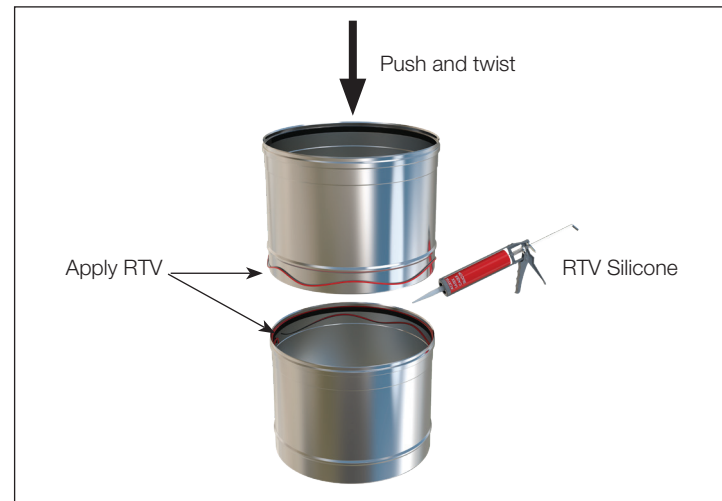

Fig 1-2: Applying RTV Silicone
3. Apply a generous amount of RTV Silicone around the outer circumference of the male end. Do the same around the inner circumference of the Elastomer Seal, while also checking the seal for any potential signs of damage. See Fig. 1-2.